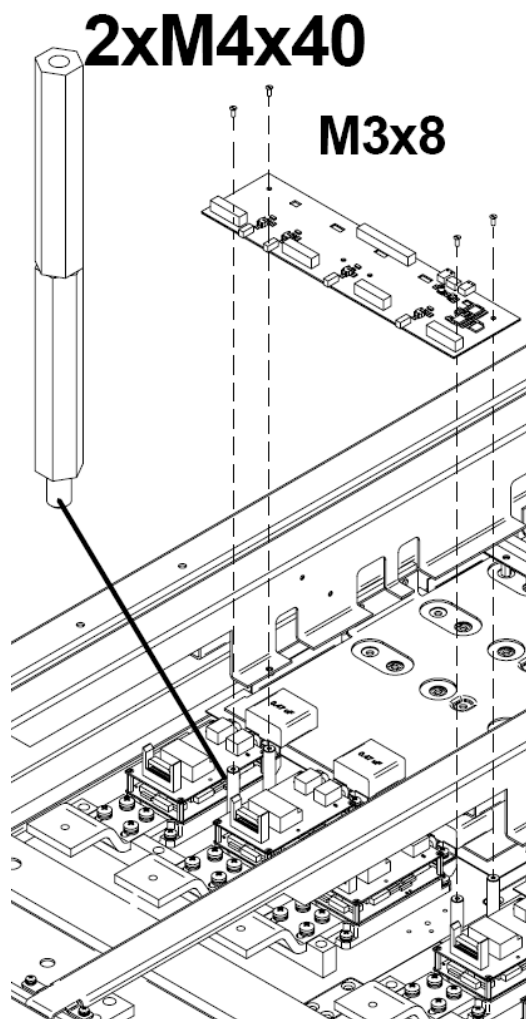

Figure 7.15. Disassembly of the IGBT's Connector Board
Follow figure 7.15 while reading these instructions:
- 2) Put the new board on the hexagonal spacers **M3x18**. (figure 7.15).